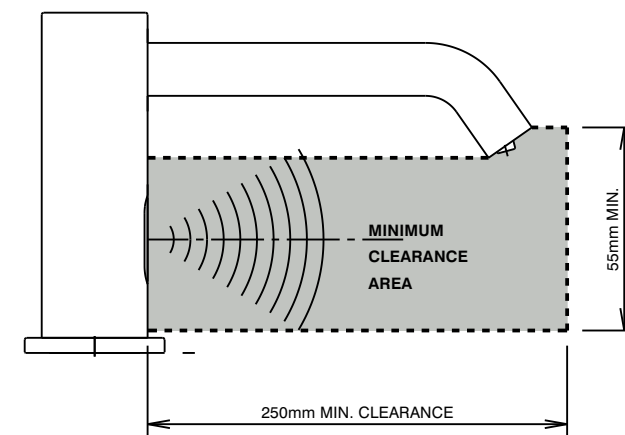
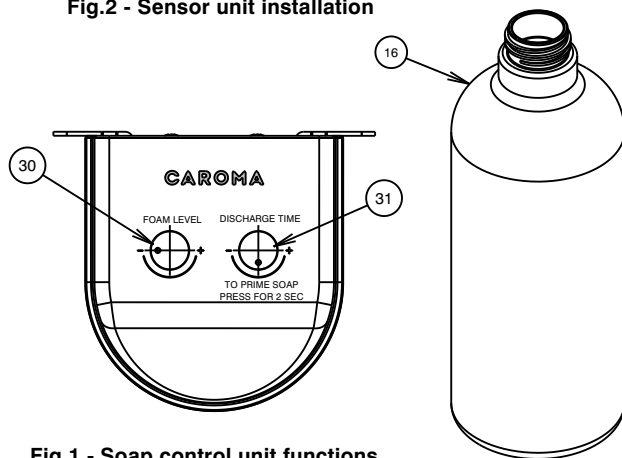

Fig.8
Fig.1 - Soap control unit functions
- * Sensor beam must not be obstructed within the range shown in Fig. 8.
- * It is recommended to use water based foam soap; However, a non-water based liquid soap can also be used. Soap solution viscosity should be within 100 to 2500 cps. For high viscosity soap solutions, the foam level knob (30) must be set to minimum at '-' no air to enable smooth dispensing. For water based solutions, the foam level knob (30) must be turned anti-clockwise towards '+' max. air.
- * Soap control unit must be primed before first use and after every refill. Follow priming instructions, as shown in Fig.1.
- * The soap control unit (12) is mains powered only. Separate battery box is supplied which can be used as a battery backup.